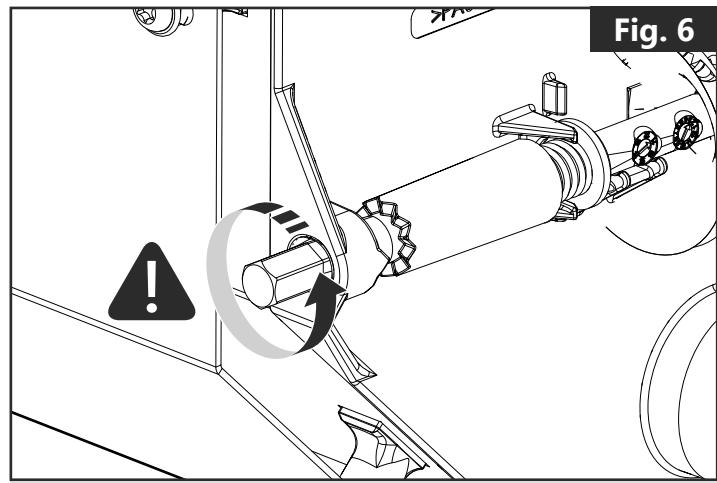

Fig. 6
- Do not disassemble the main shaft from the canister without relieving the spring tension completely (See "Spring adjustment"). (**Fig. 6**)